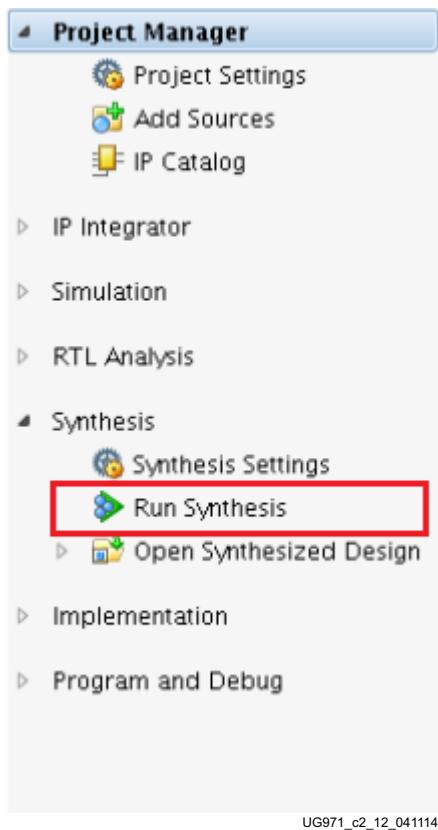

Figure 2-12: Run Synthesis
14. Click **Run Synthesis** in the Flow Navigator to synthesize the design (Figure 2-12).